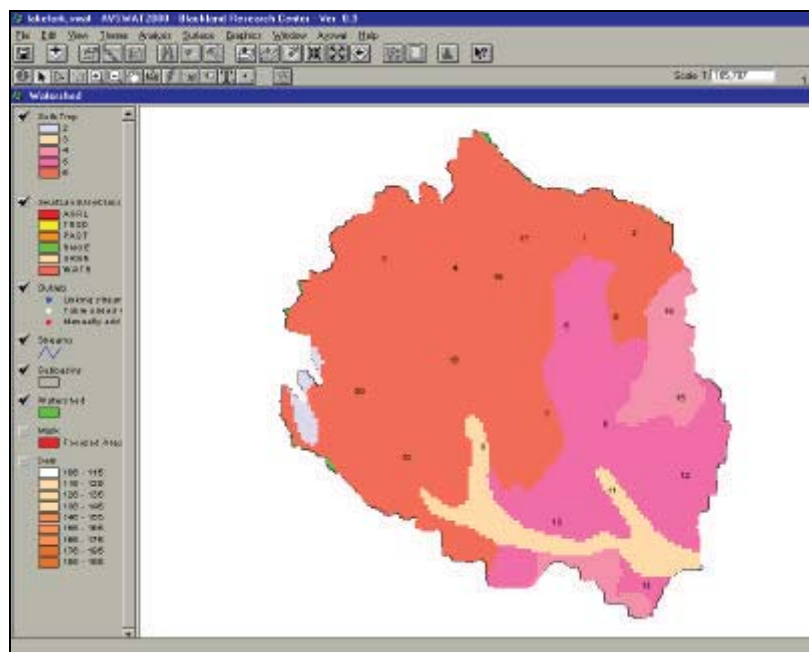

Figure 15.33
20. The raw soil grid will be displayed and clipped to the watershed area (Figure 15.33).